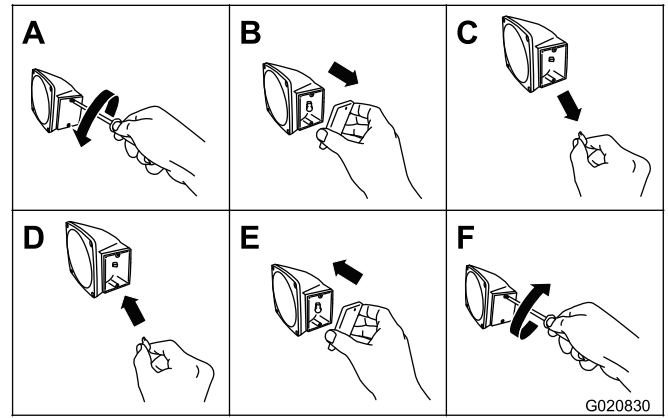

Figure 18
1. Use a screwdriver to remove the 2 screws from the small rectangular lens on the side of the light (Figure 18).
2. Remove the lens (Figure 18).
3. Pull the bulb out of the socket (Figure 18).
4. Push a new 168 bulb into the socket (Figure 18).
5. Install the lens and the 2 screws (Figure 18).